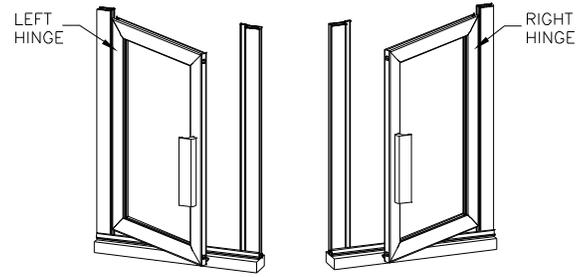

Figure 3
Decide from which side your Door Assembly (D) is to hinge (left or right) see **Figure 3**.